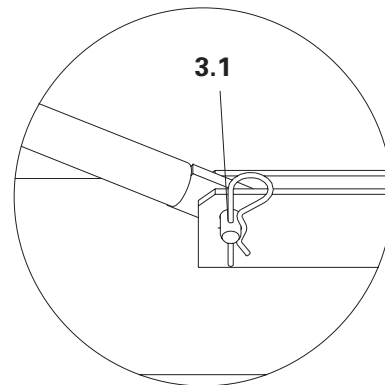

Abb.15
- push-pull props are always connected in the holes **3.1**. Fig. 15